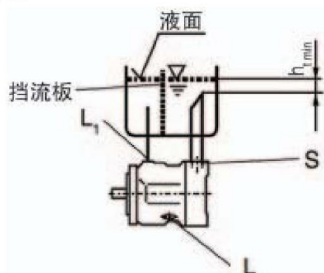

图 5
b) 如安装在油箱下，泄油口“L₁”及进油口“S”配管请参见图 5。
Pipe ports "L₁" and "S" according to Fig.5, close port "L".